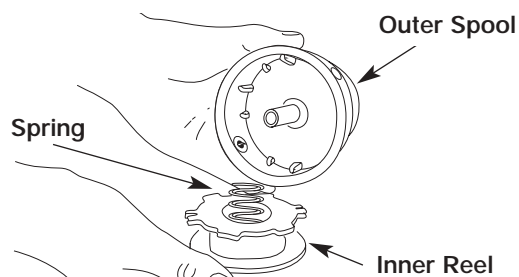

FIGURE 12
2. Remove the inner reel from the outer spool, Figure 12.
3. Remove spring from the inner reel, Figure 12.
2. Remove the old inner reel from the outer spool, Figure 12.
3. Remove the spring from the old inner reel, Figure 12.